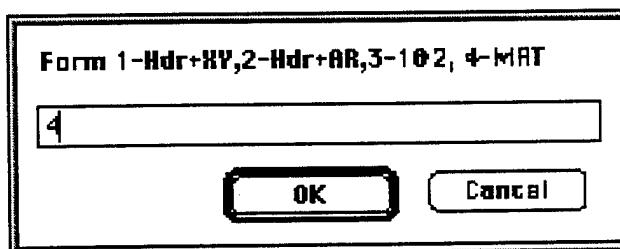

Figure 3.14: Third dialog box of **Decompressall**, selecting decompression format.
6. Finally, a decompression format must be chosen. The four options shown in Table 3.1 are currently available. The dialog box is the same as shown in Figure 3.14.